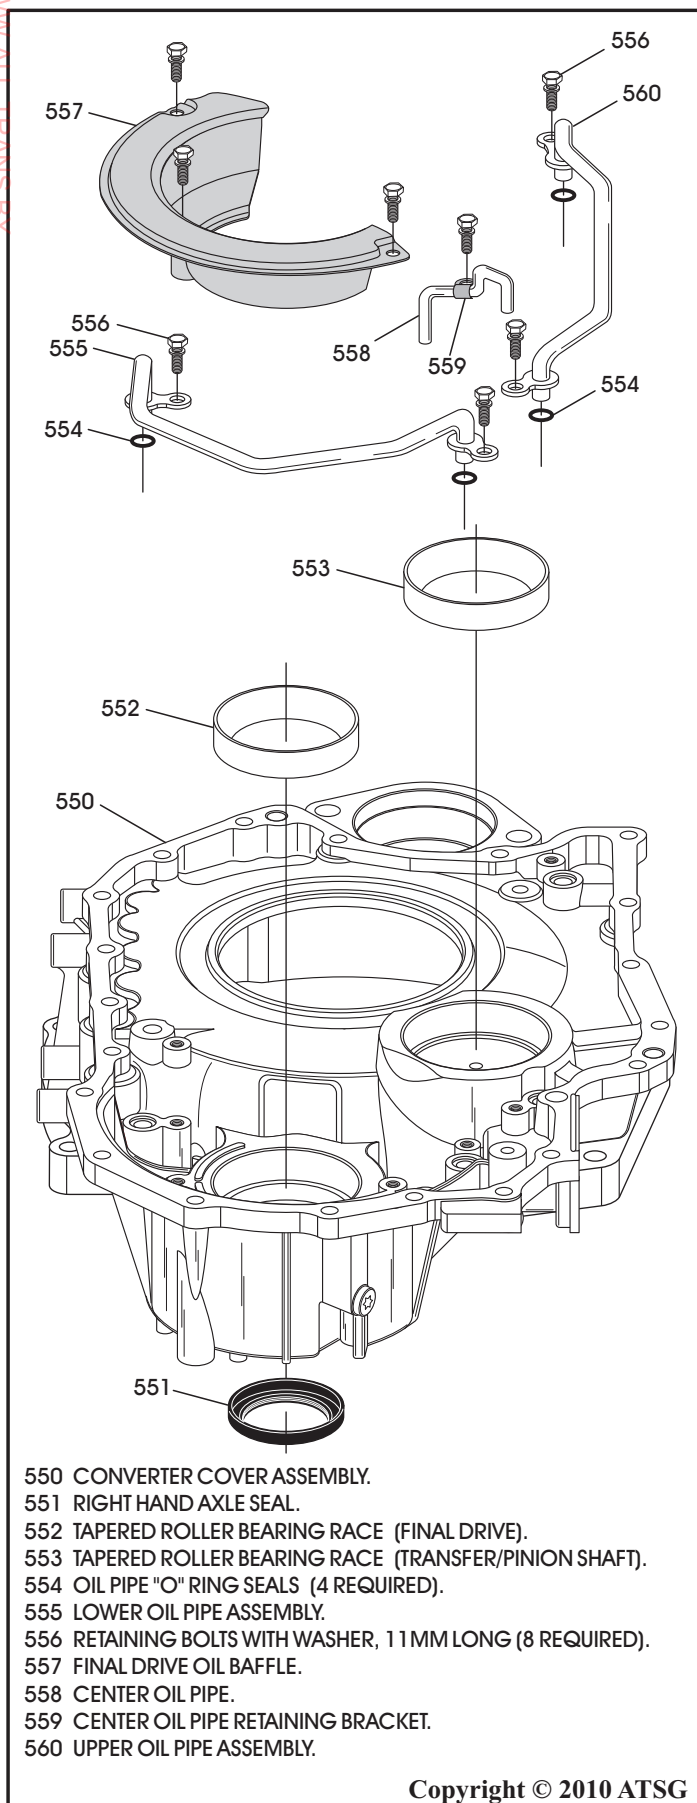

Figure 89
1. Disassemble the converter cover parts using Figure 89 as a guide.
4. Install new "O" ring seals on the 2 large diameter oil pipes, as shown in Figure 89, and lube with a small amount of Trans-Jel®.
5. Install the two large diameter pipes, as shown in Figure 89, and torque the four retaining bolts to 8 N·m (70 in.lb.).
6. Install the center oil pipe by pressing into place, as shown in Figure 89, and torque the retaining bolt to 8 N·m (70 in.lb.).
7. Install the final drive oil baffle, as shown in Figure 89, and torque bolts to 8 N·m (70 in.lb.).
8. Install new right hand axle seal, as shown in Figure 89, using the proper seal driver.